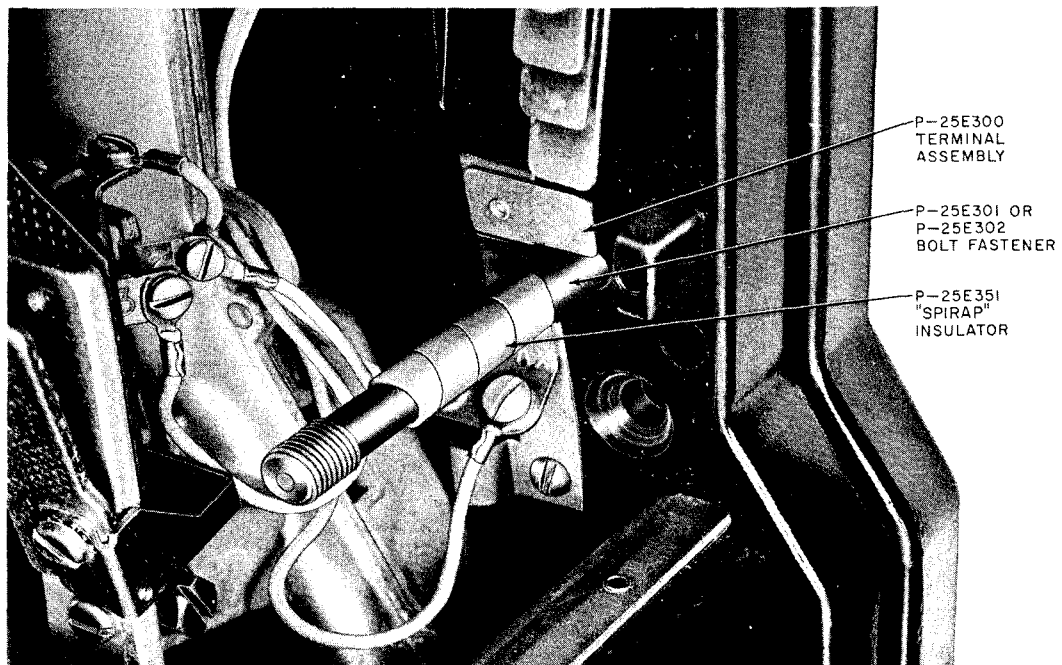

Fig. 18— New Terminal Assembly, Insulator, and Bolt Fastener
3.18 The P-25E301 and P-25E302 bolt fasteners screw from the rear into the lower right security stud hole (viewed from front), of the coin collector backplate (Fig. 18). The coin collector is installed on the mounting surface in the same manner as any other coin collector equipped with security studs.